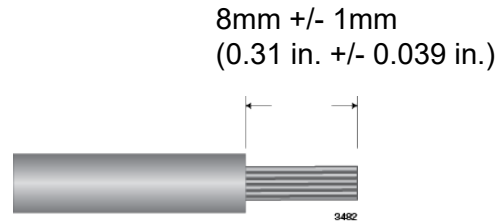

Figure 57. Stripped Wire
4. With a 14-gauge wire-stripping tool, strip the three wires in the tray cable coming from the DC input power source to $8\text{mm} \pm 1\text{mm}$ ($0.31\text{ in.} \pm 0.039\text{ in.}$), as shown in Figure 57 on page 119.